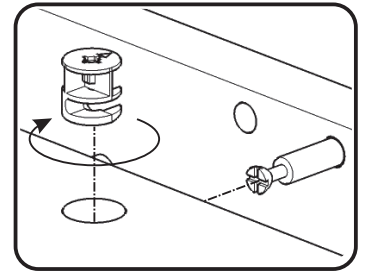

Figure 2
Attach Middle Panels (D), (E) to Top (A) with Head Cap Bolts, then tighten. (See Figure 2)